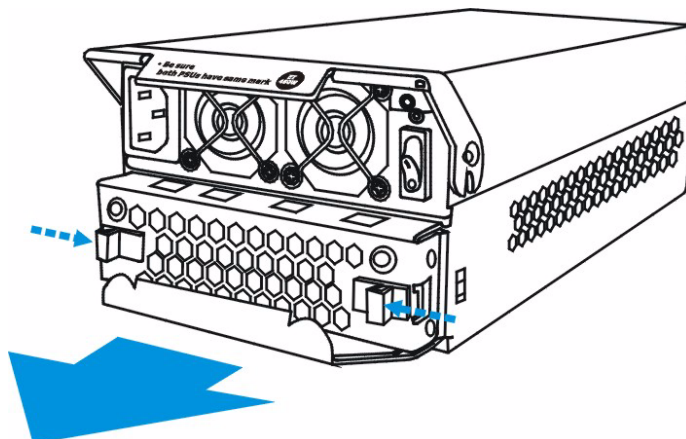

Fig. 6.5 Remove the Cooling Module
- It is recommended that the replacement procedure is completed in less than five (5) minutes to prevent the subsystem from overheating.
5. Remove the cooling module: To do this, push the clips on either side of the module rear panel together. Then gently pull the cooling module out of the lower level of the PSU bracket. (See Figure 6.5)